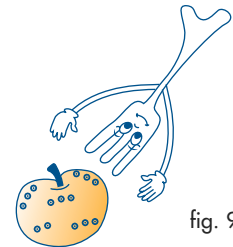

fig. 9
- 4) **Food which has a skin, shell or peel (e.g., apples, potatoes, tomatoes, frankfurters, fish) must be pierced with a fork in several points to let steam escape and to prevent those items from exploding (see Fig. 9).**